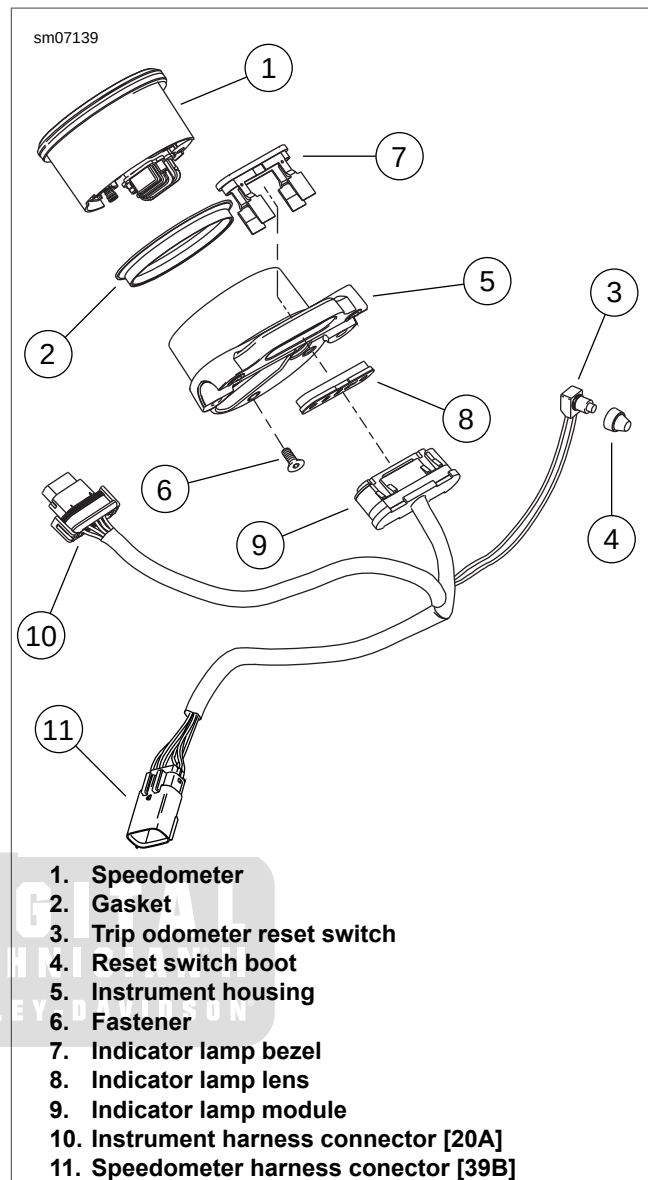

Figure 6-6. Speedometer: XL 1200C/C ANV/CP/CA
- **XL 1200C/C ANV/CP/CA except XL 1200CP/CB Models with Mini Ape Handlebar:** See Figure 6-6.